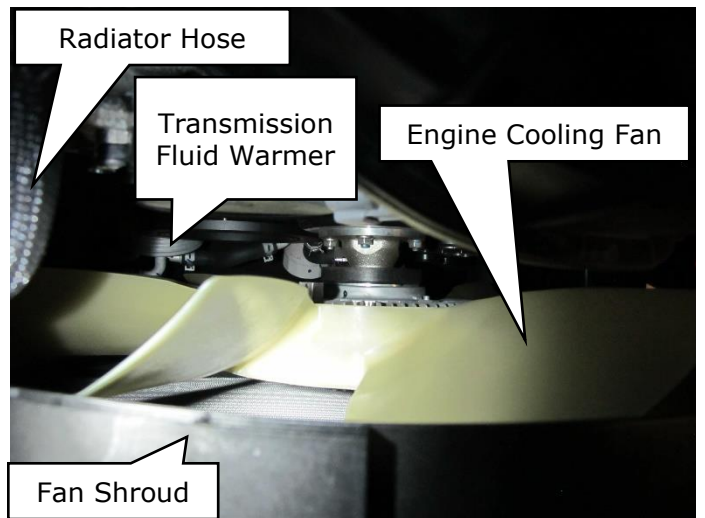

Figure 8
- c. Cooling fan and shroud (Figure 8): **Must not have any damage.**
- d. Radiator hoses in area of cooling fan (Figure 8): **Must not have any leaks.**
- e. Transmission fluid warmer pipes in area of cooling fan (Figure 8): **Must not have any leaks.**